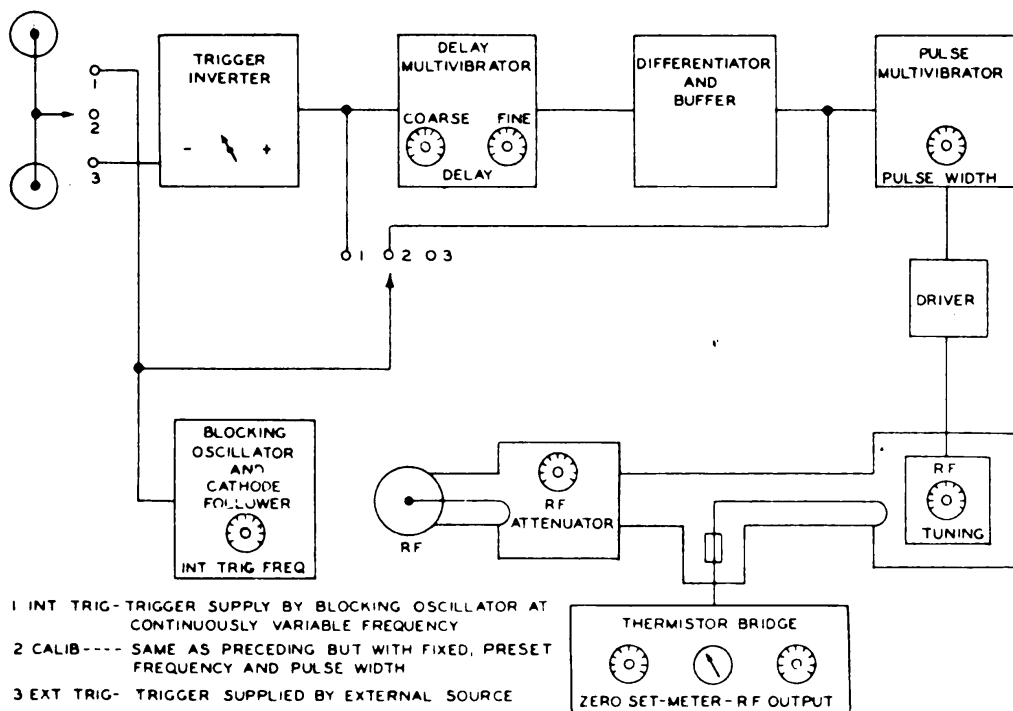

Figure 39. Signal Generator TS-155B/UP, block diagram.
49. SIGNAL GENERATOR TS-155B/UP (fig. 39).
The simplified block diagram (fig. 39) shows the relationship between the principal component circuits of the signal generator circuit and their functions are as follows: